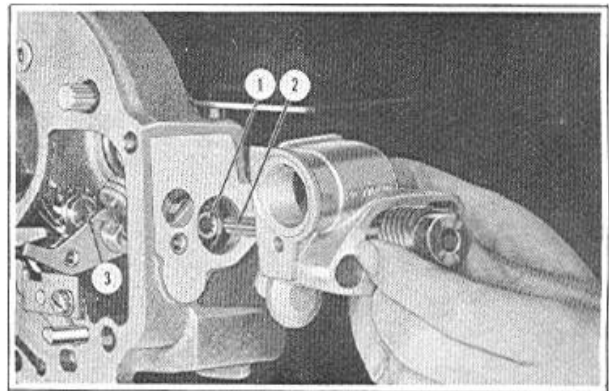

FIGURE 39
6. With the governor shaft (2), properly aligned with the governor end bracket (1), insert the shaft in the governor, Figure 39.